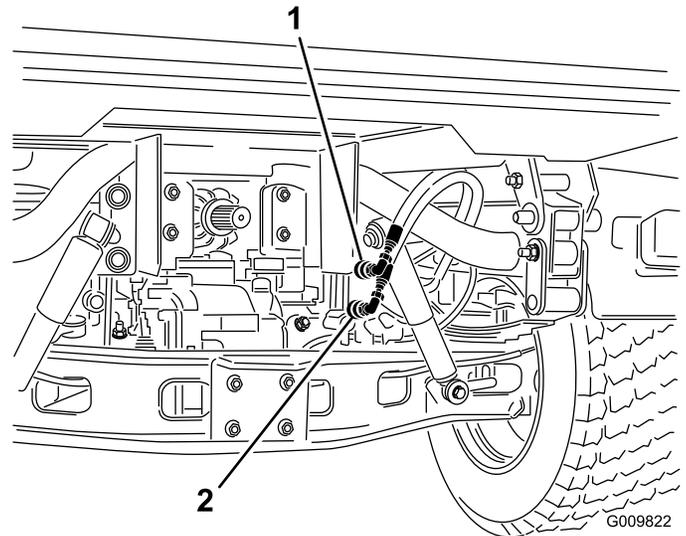

Figure 62
2. On both vehicles, disconnect the two quick coupler hoses from the hoses secured to the coupler bracket (Figure 62).